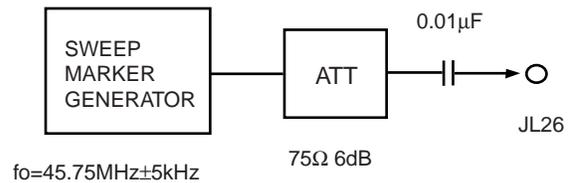

Fig. 3-1
2. Apply no signal to JL18 (RF).
4. Apply a sweep signal across JL26 (IF) and JL27(IF GND). (Fig. 3-1)